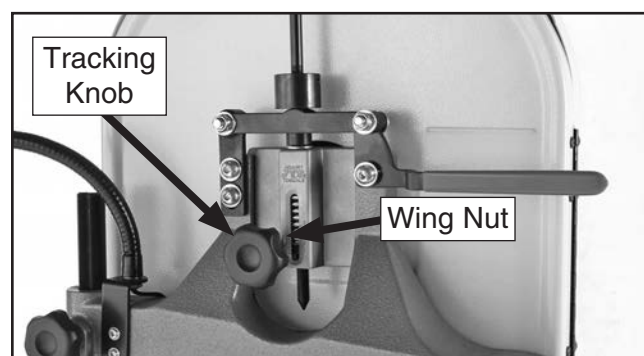

Figure 20. Tracking knob and wing nut for blade tracking controls.
6. Loosen wing nut on tracking knob (see **Figure 20**).